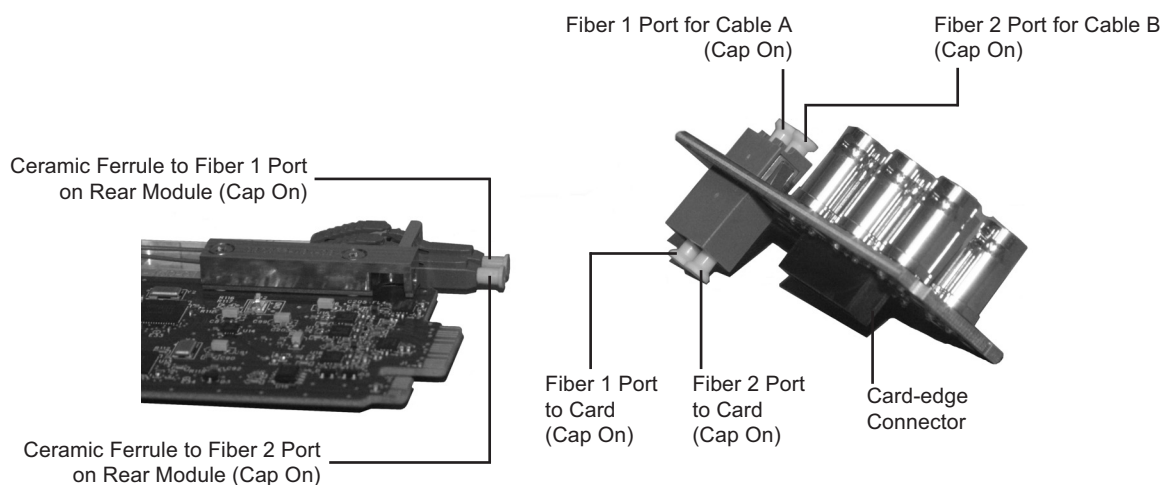
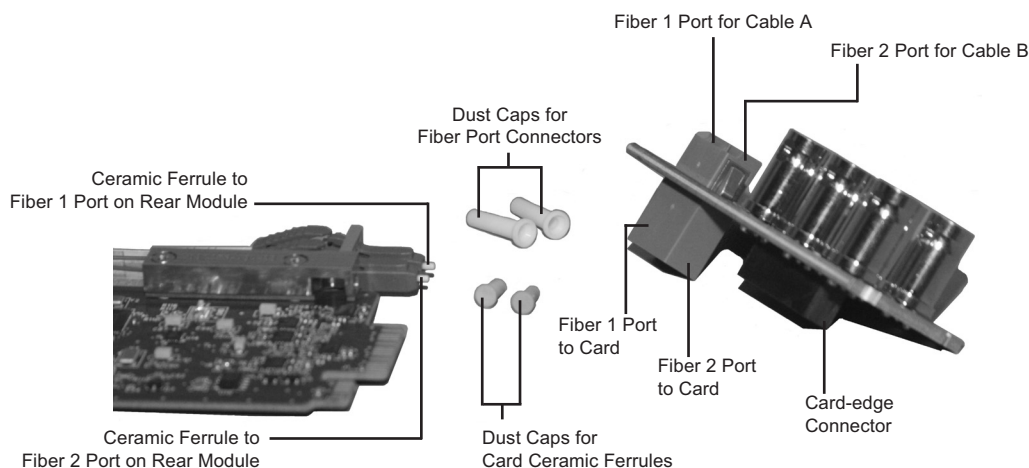

Figure 2.1 Card Connectors with Dust Caps Installed — 8320AR-044 Rear Module Shown
Figure 2.2 Card Connectors with Dust Caps Removed — 8320AR-044 Rear Module Shown
- Connectors must always be inserted into a device or have a dust cap on. Refer to **Figure 2.1** for dust cap locations.
3. Remove the dust caps from the Fiber ports on the rear module that faces the interior of the frame. Refer to **Figure 2.1** and **Figure 2.2** for dust cap locations.